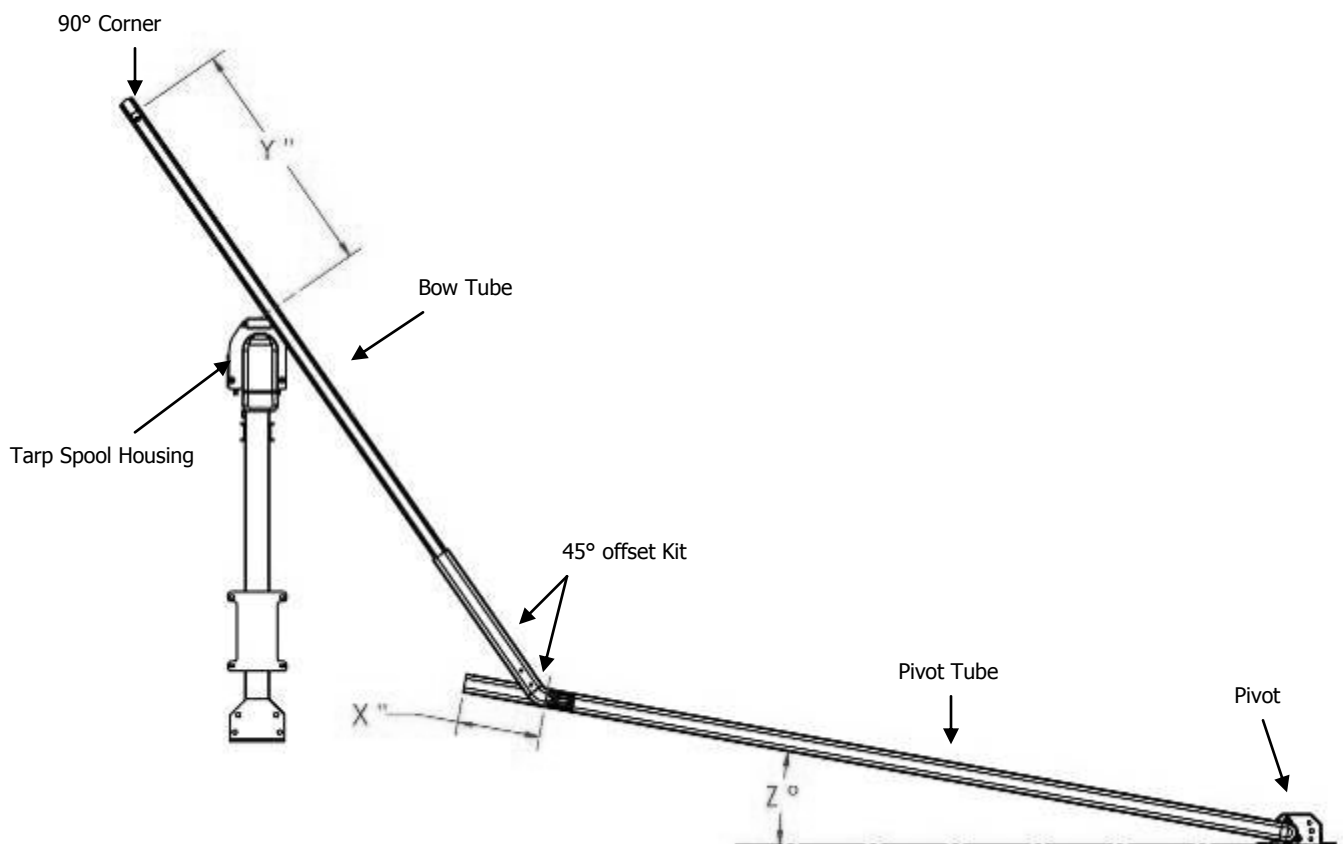

Fig. 3
Steps 3 – 9 refer to Fig. 3
- 5) Rotate the arm forward until it is in the desired location or angle from the frame rail and prop in this position (see "Z" in Fig. 3).
- 8) With the upper arm assembly held in position mark the Pivot tube at the flare of the 45° elbow, illustrated by dimension "X" in Fig. 3.
- 9) Still with the upper arm assembly held in place measure from the center of the rubber pad on the tarp spool housing to the end of the bow tube, below the 90° corner. This is dimension "Y" in Fig. 3. Record this measurement.
- 11) Cut an amount equal to dimension "X" from Fig. 3 off both the driver and the passenger side pivot tubes.